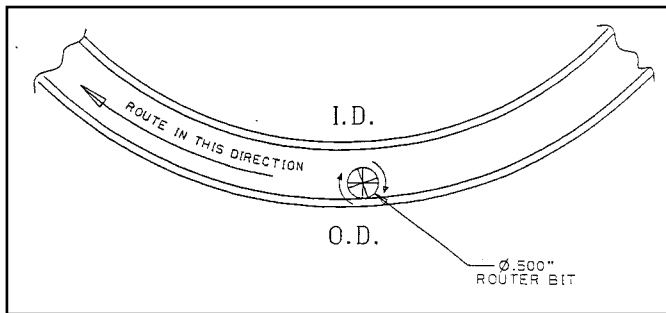

Figure 7
3. The pins should be adjusted so that two pins are tight against the inner wall of the pipe and two pins should be tight against the outer wall. In addition, the pins should be adjusted so that the router bit will remove the rib without cutting into the outer wall (see Figure 7). **With the router power off**, check and readjust the pins so that the router will go completely around the end of the pipe without binding.